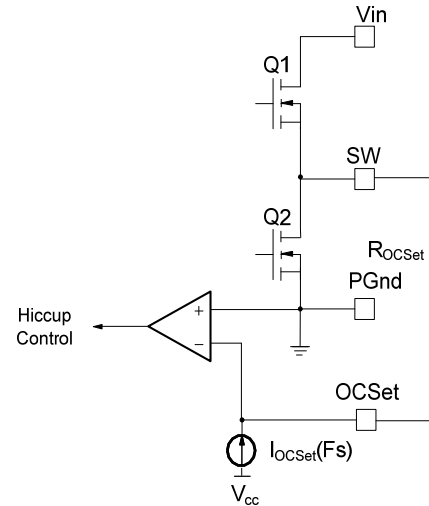

Fig. 7. Connection of over current sensing resistor
The over current protection is performed by sensing current through the $R_{DS(on)}$ of low side MOSFET. This method enhances the converter's efficiency and reduces cost by eliminating a current sense resistor. As shown in figure 7, an external resistor (R_{OCSet}) is connected between OCSet pin and the switch node (SW) which sets the current limit set point.